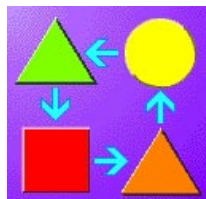

Figure 3-33
2. From the Preference menu select the **<USER INTERACTION>** icon. (Figure 3-33)